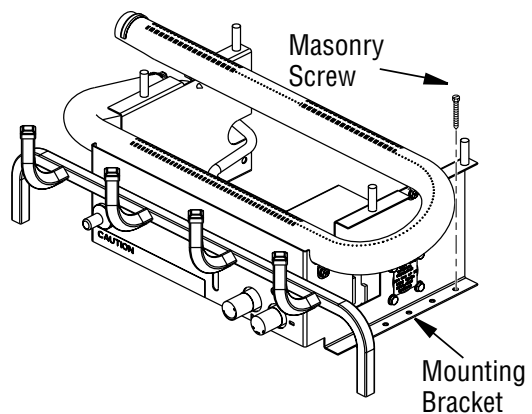

Figure 11 - Attaching Base to Fireplace Floor
7. Mark screw locations through one hole on each side of the mounting bracket (*see Figure 11*). If installing in a brick-bottom fireplace, mark screw locations in mortar joint of bricks.